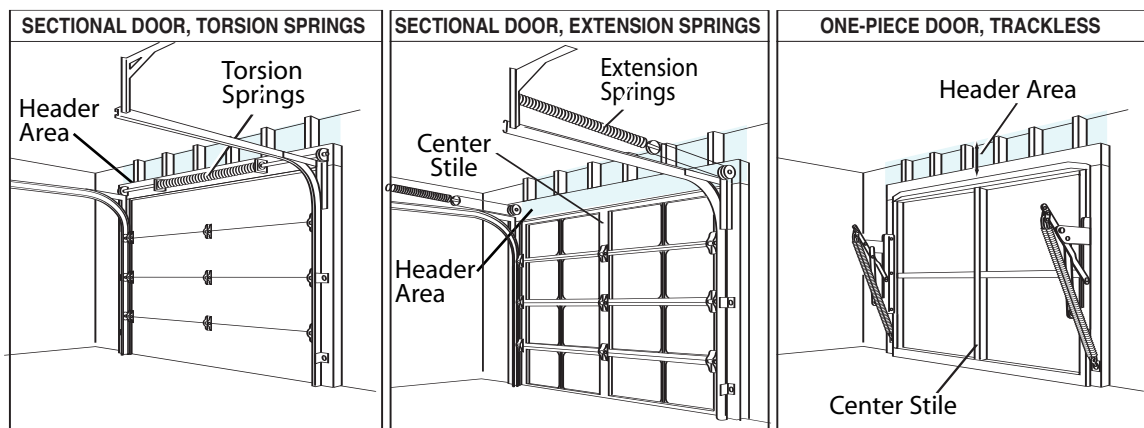

Figure 2 Note Door Type
Check condition of vertical stile in center of door (**Figure 2**), and its connection to door's top and bottom beams.
- C** Check door type. Make a note of whether it is a sectional or a one-piece door (**Figure 2**).